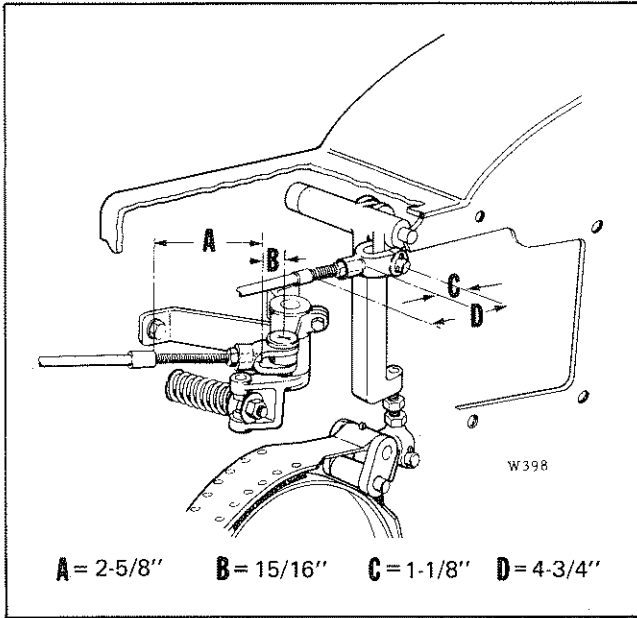

FIGURE 4-5. ADJUSTMENT OF BRAKE LINKAGE, DIRECT DRIVE WINCH
- 4-14. BRAKE HANDLEVER ADJUSTMENT.** (See Figure 4-5.) To adjust the positioning of the Brake Handlever, proceed as follows:
end (see Figure 2-1) until dimension **B**, Figure 4-5, is obtained.